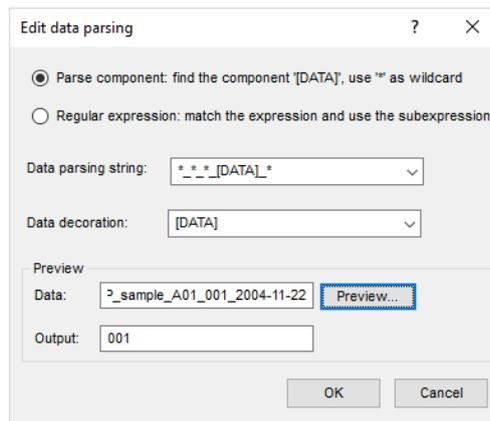

Figure 2: Data parsing string.
10. Press the <**Preview**> button and press <**OK**> when the parsing is correct (see Figure 2).